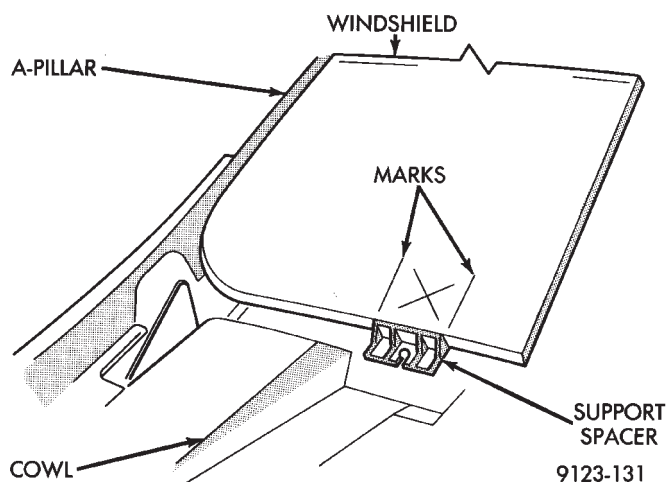

Fig. 3 Center Windshield and Mark at Support Spacers
(1) Place replacement windshield into windshield opening. Position glass in the center of the opening against the support spacers. Mark the glass at the support spacers with a grease pencil or masking tape and ink pen to use as a reference for installation. Remove replacement windshield from windshield opening (Fig. 3).